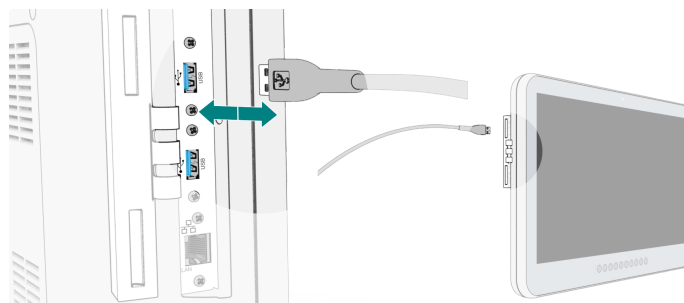

Figure 17: SuperPROBE connection shown for CORE 24 model
4. If a **SuperPROBE** is attached to the system, the system will establish a connection. In case of a connection problem, reconnect the SuperPROBE (Figure 17).